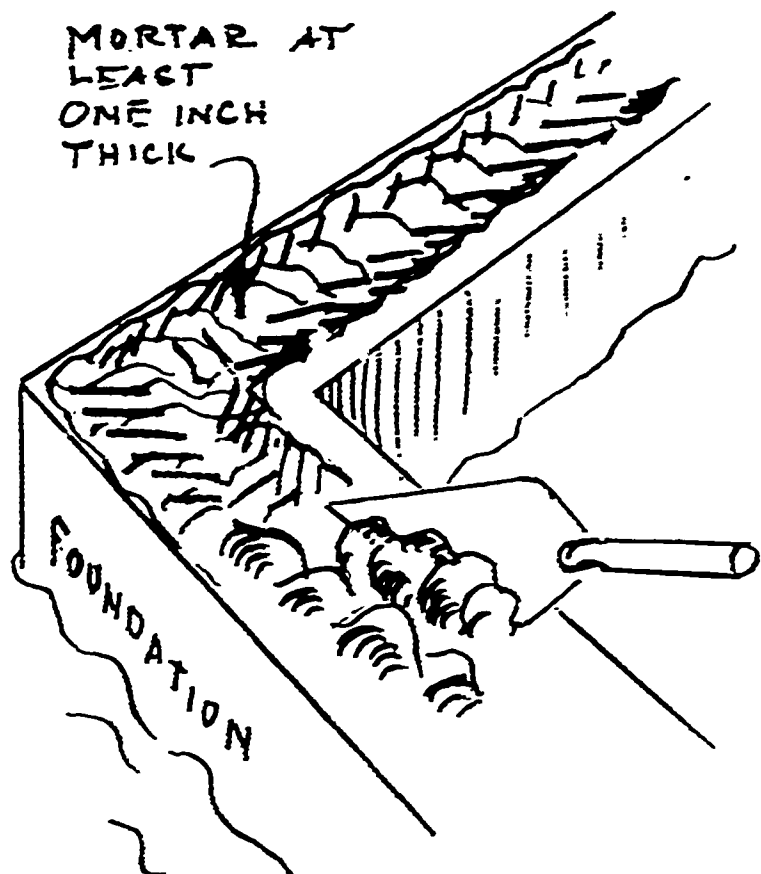

FIG. 509
4. Using careful leveling and calculations, "lay in" a line of mortar about 1" thick on the footing. See figure 509.